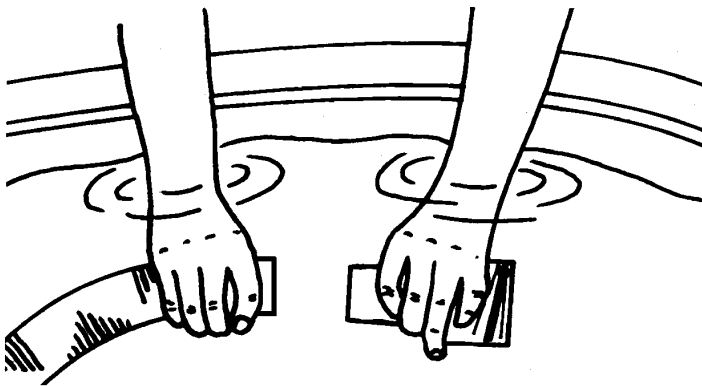
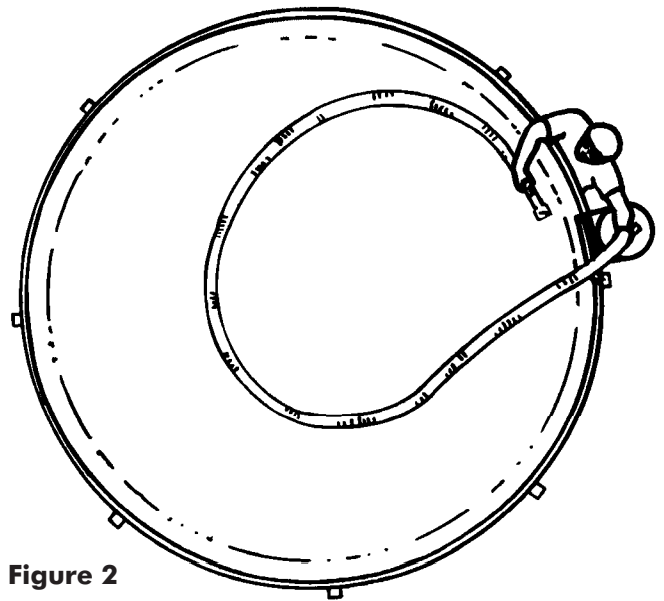

Figure 1
Figure 2
- Attach the Pool Pulse® to the hose and keep it under water as shown in Figure 1.
Remove the wheel deflector (Figure 1). Loosen the handnut by turning it counter clockwise one full turn (Figure 2). (Do not loosen or remove the handnut completely.) Turn the unit over, grasp the diaphragm by the flange (Figure 3) and pull the diaphragm/ assembly out of the body (Figure 4). Remove the diaphragm from the inner extension pipe (Figure 5), leaving the retaining ring on the diaphragm and inspect for blockage or cuts. Remove blockage and rinse. Do not use sharp objects as damage to diaphragm may occur. If replacement parts are needed, contact technical service at 1-888-786-7797 for an authorized warranty station.